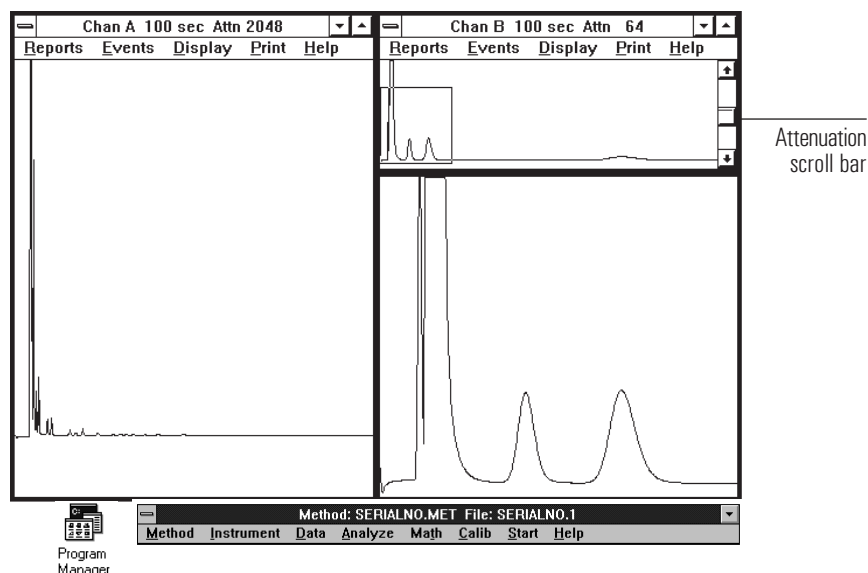

Figure 57 Attenuation scroll bar
1. Move the cursor onto the scroll bar at the right side of the upper chromatogram display (See Figure 57).